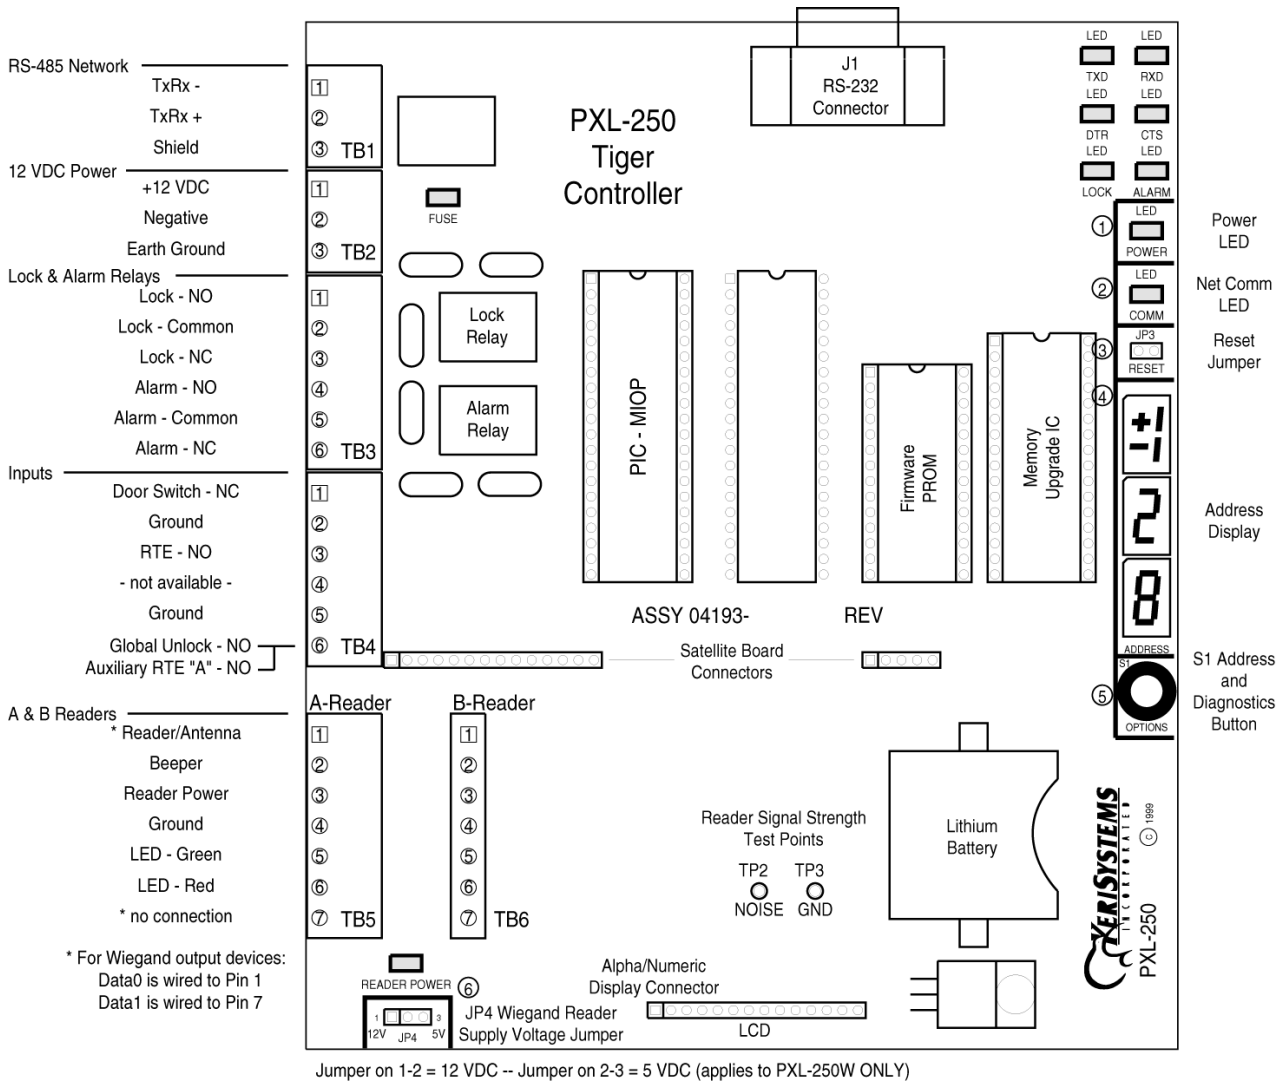

Figure 1: Surface Mount PXL-250 Controller
- For a surface mount controller, use Figure 1 on page 5 as a reference.